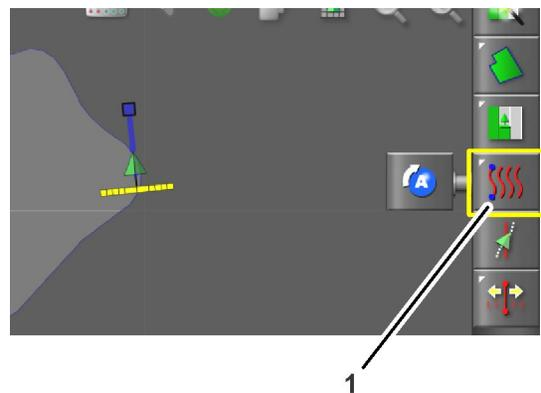

Figure 15
4. Press the guideline menu icon (Figure 15).